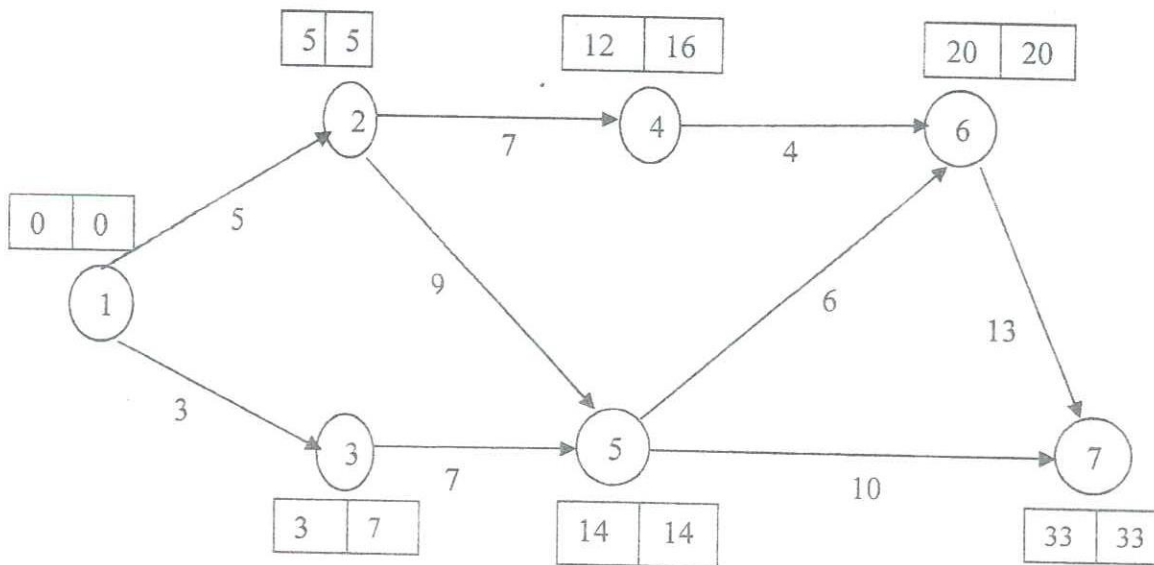

Figure Q2: Activity relationships
- b) Table Q2 includes the planned time and cost for each activity in a construction project with possible crashing information. Figure Q2 illustrates the corresponding network diagram. Carry out the crashing procedure using compression logic for